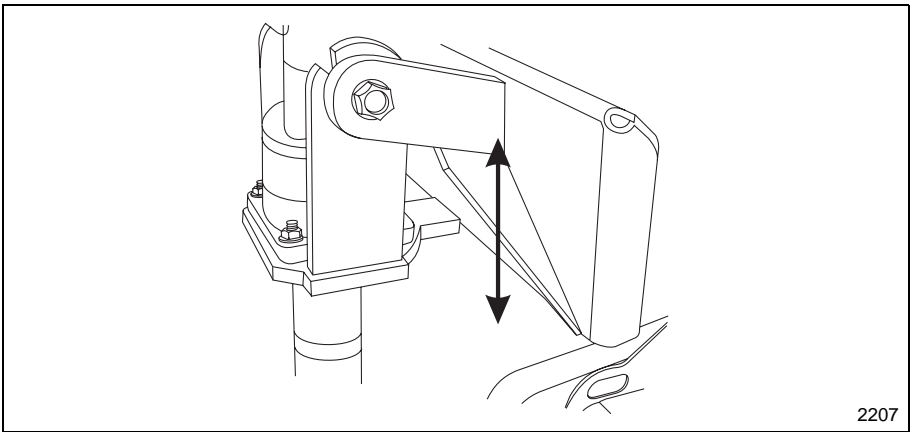

Figure 1-10 Auger in Vertical Position
4. Using the attachment Tilt lever, be sure that the auger is hanging freely in the vertical position, See Figure 1-10.